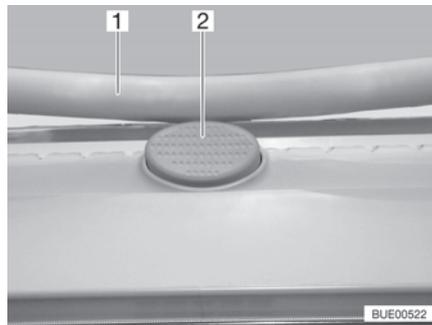

Fig. 29 Safety knob (Heki skylight)
- Press the safety knob (Fig. 29,2) and pull the bar (Fig. 29,1) down with both hands.
- Push the bar upwards with both hands until it is above the safety knob (Fig. 29,2).